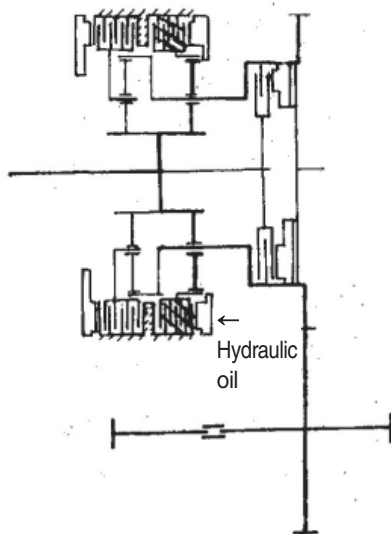

Figure 4 Power flow chart of forward gear I
When external load is increasing, speed of intermediate input shaft (12) is caused to descend gradually. If speed of the intermediate input shaft (12) is lower than that of outer-ring gear of large overrunning clutch (15), the roller (13) is to be wedged. Power from the first-stage turbine is transferred to large overrunning clutch cam (14) via the roller (13). Since the cam (14) and the intermediate input shaft (12) are connected with bolts, the first- and the second-stage turbines work together at the time. Mechanical transmission has two forward gears and one reverse gear. Transmission route and power flow chart of each gear are as shown in figure 4, 5 and 6.